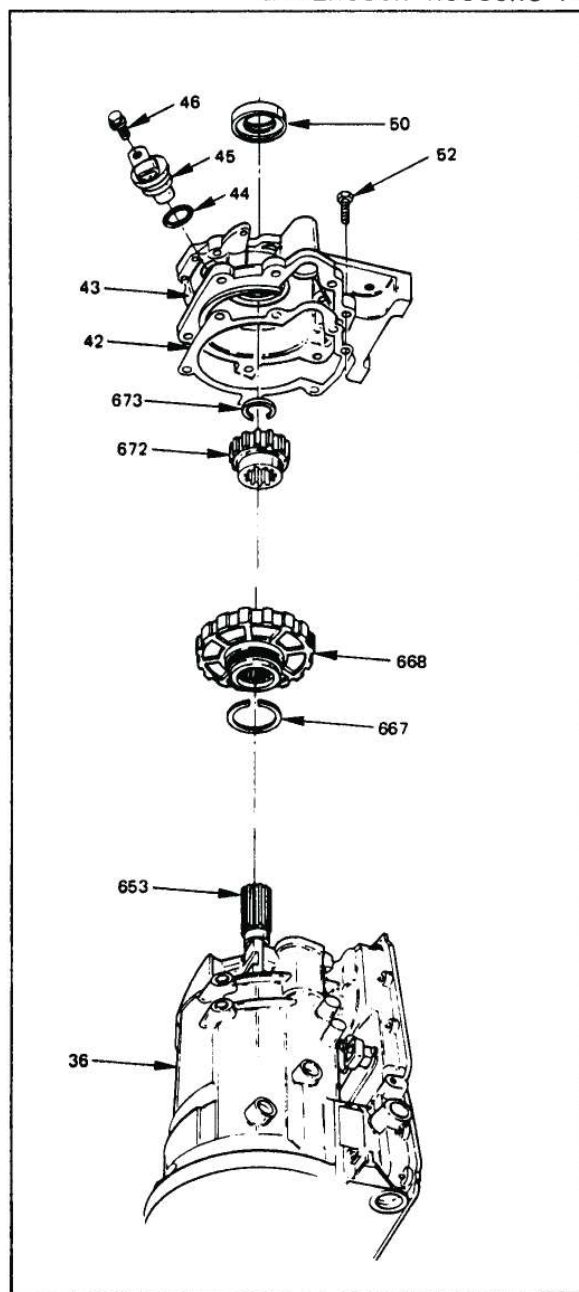

Figure 122
1. Install new sealing ring on the park gear (See Figure 122).
2. With transmission in horizontal position, install parking gear by splining on the output shaft (See Figure 122).
3. Install speed sensor rotor and snap ring on output shaft, as shown in Figure 122.
5. Install extension housing assembly to the main case (See Figure 122).
8. Install the speed sensor and "O" ring assembly into the extension housing, secure with 10mm bolt (Figure 122).